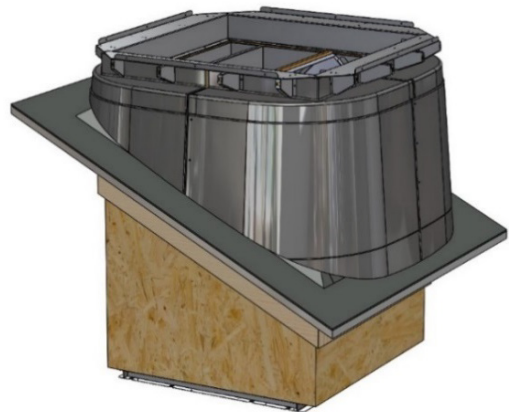

Figure 42 – Heat exchanger final position.
2. Ensure upper perimeter of the heat exchanger is level on the top of the plywood upstand - *see figure 42.*